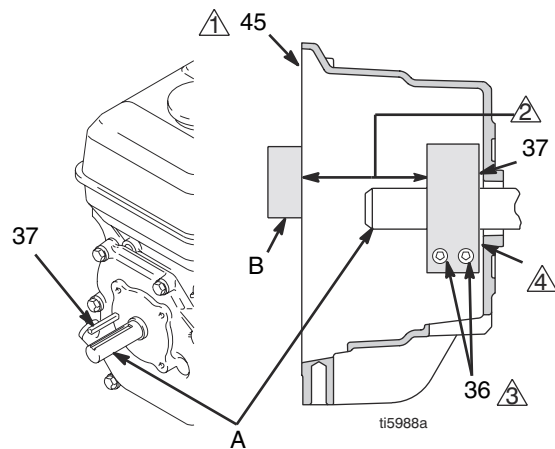

FIG. 10
- FIG. 10. Loosen two screws (36) on clamp (38),
- Push screwdriver into slot in clamp (38) and remove clamp.
- FIG. 10 Install engine shaft key (37)
- Tap clamp (38) onto engine shaft (A). Maintain dimension shown note 2. Chamfer must face engine.
- Check dimension: Place rigid, straight steel bar (B) across face of clutch housing (45). Use accurate measuring device to measure distance between bar and face of clamp. Adjust clamp as necessary. Torque two screws (36) to 125 ± 10 in-lb (14 ± 1.1 N·m)
- Install armature (39) on engine drive shaft.
- Install four screws (36) and lock washers (35) with torque of 125 in-lb.